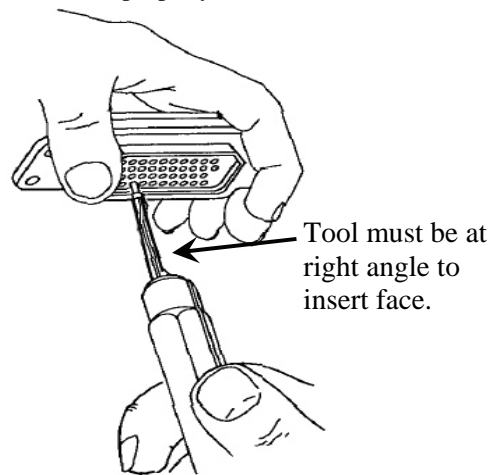

Figure 11. Contact Insertion
- g. With firm even pressure, press tool against contact shoulder and seat contact into cavity (Figure 11). A slight click may be heard as retention tines snap into place behind contact shoulder.